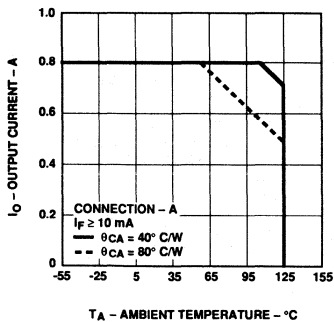
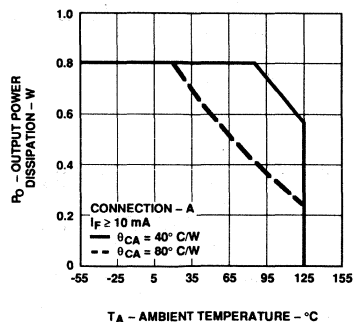

Figure 2. Maximum Average Output Current Rating vs. Ambient Temperature.
Figure 4. Output Power Rating vs. Ambient Temperature.
- For rating, see Figure 4. The output power P_O rating curve is obtained when the part is handling the maximum average output current I_O as shown in Figure 2.
Rating curves are shown in Figures 2 and 4. Figure 2 specifies the maximum average output current allowable for a given ambient temperature. Figure 4 specifies the output power dissipation allowable for a given ambient temperature. Above 55°C (for $\theta_{CA} = 80^\circ\text{C}/\text{W}$) and 107°C (for $\theta_{CA} = 40^\circ\text{C}/\text{W}$), the maximum allowable output current and power dissipation are related by the expression $R_{SS} = P_O(\text{max})/(I_O(\text{max}))^2$ from which R_{SS} can be calculated. Staying within the safe area assures that the steady-state junction temperatures remain less than 150°C . As an example, for $T_A = 95^\circ\text{C}$ and $\theta_{CA} = 80^\circ\text{C}/\text{W}$, Figure 2 shows that the output current should be limited to less than 610 mA. A check with Figure 4 shows that the output power dissipation at $T_A = 95^\circ\text{C}$ and $I_O = 610$ mA, will be limited to less than 0.35 W. This yields an R_{SS} of .94 Ω .